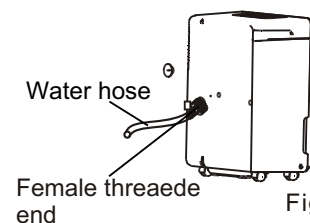

Fig.10
- Install the female threaded end of the water hose into the adaptor A. (See Fig.10), then lead the water hose to the floor drain or a suitable drainage facility.